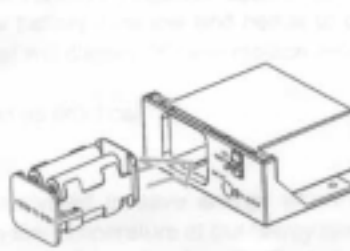

Figure 6
- 8 In order to prevent the Remote Receiver (fireplace installation only) from overheating, put a heat shield (option item) above the Remote Receiver. See Figure 6.